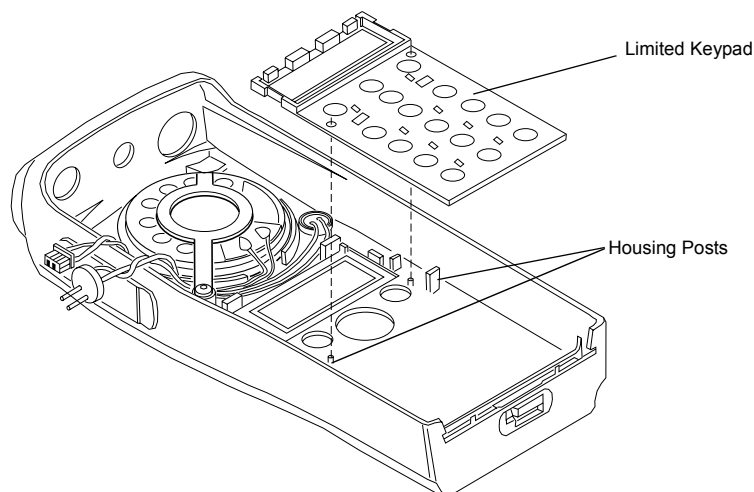

Figure 7-14. Keypad Re-assembly
3. Install the new keypad into the housing. Use the two housing posts for keypad alignment (Figure 7-14)